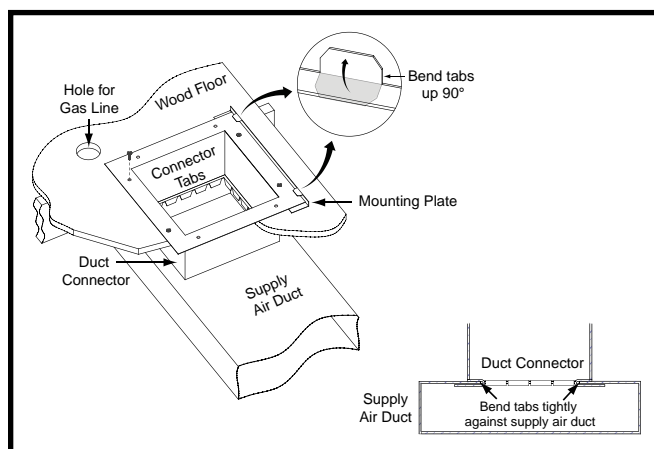

Figure 14. Duct Connector Installed
2. Mark the cut-out area on the supply air duct by tracing around the connector tabs (Figure 14) of the duct connector.
5. Install the mounting plate (Figure 14) under the back side of the duct connector. Align the screw holes in both components.
11. Bend both tabs on the mounting plate (Figure 14) up 90°.
4. Place the A/C coil box on the duct connector until the back side butts firmly against the mounting plate tabs. **NOTE:** Mounting plate tabs must be bent upwards as shown in Figure 14 (page 17) to prevent interference with furnace.